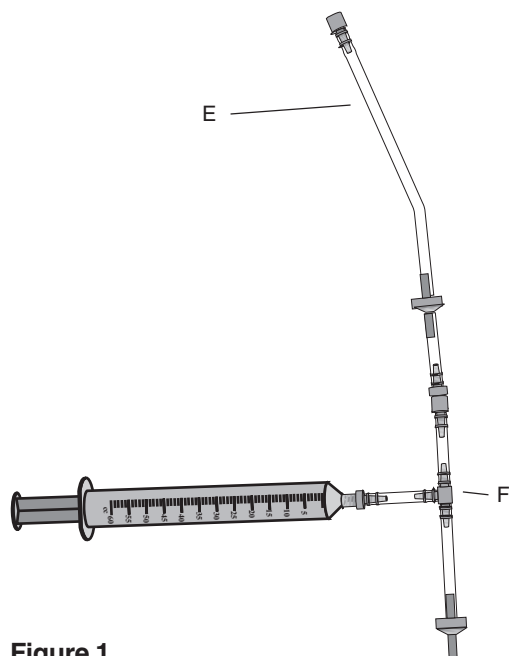

Figure 1
1. Assemble the vacuum pump as shown in Figure 1.